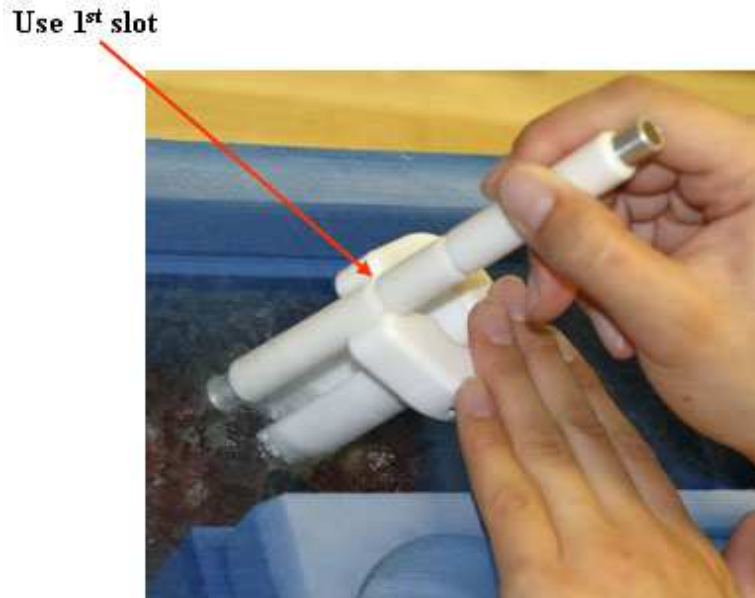

Figure 24: Using the guide slot under liquid nitrogen.
- (b) Slide the lower slot of the magnetic wand tool into the guide tool (fig.24) while keeping the sample under liquid nitrogen.